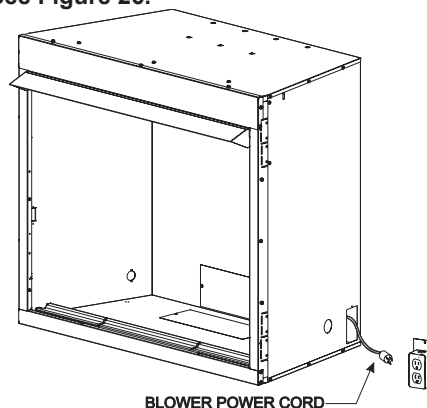

Figure 26
10. To complete the installation, plug the power cord into the junction box receptacle at the right rear corner of the firebox outer wrap. **See Figure 26.**